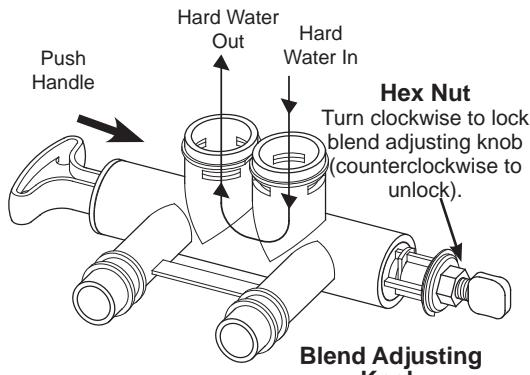

Figure 17
1. Hold bypass handle to keep the valve stem from rotating (see Figure 16). Loosen hex nut on blend adjustment knob by turning the hex nut counterclockwise (see Figure 17).
4. Once the desired hardness is achieved tighten the hex nut (see Figure 17) clockwise until it comes in contact with the bypass stem.